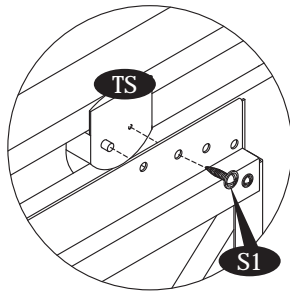

Fig.2
11. Slide the door panel assembly into the base bar front (BBF). Make sure the bottom slider (BS) should slide inside the base bar front. See fig.1. Fix the door panel top to the top slider (TS) with (S1) screws. See fig.2 & 3